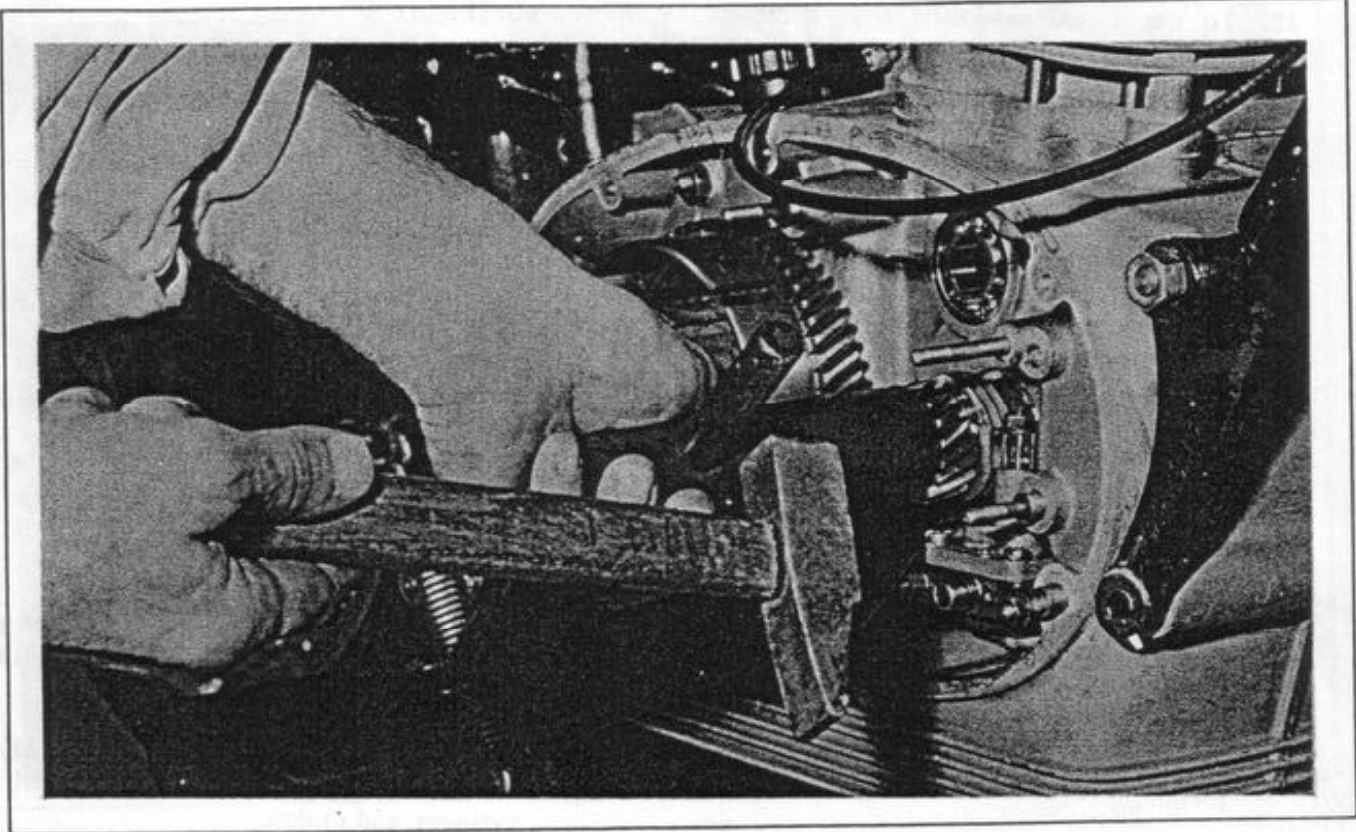

Figure 25.
a. Use tool FF with a hammer to remove the crankshaft nut, reference 35 (Figure 25).